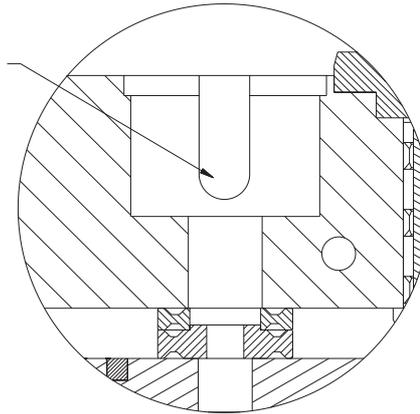

Fig 34.1
- It may be necessary, in some cases, to machine the slot for feed lines right through the clamping plate to allow for ease of fitting from the back of the tool. Fig 34.1